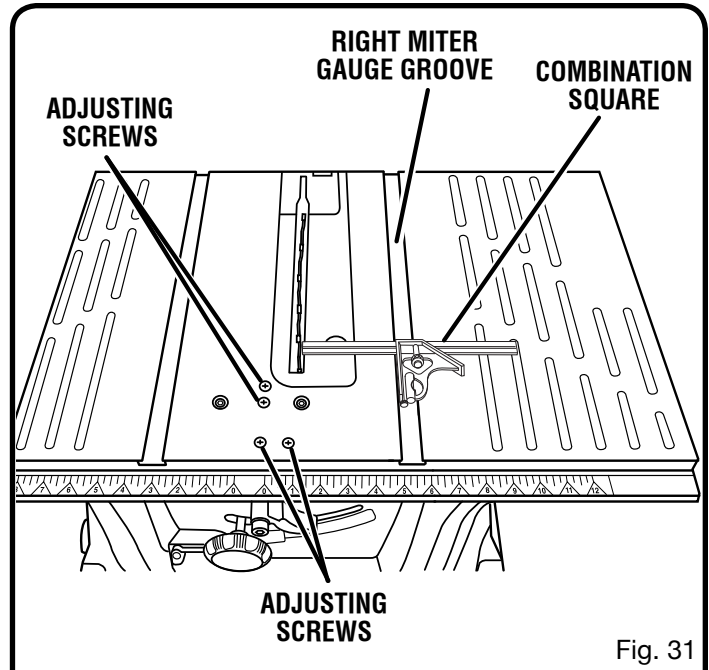

Fig. 31
See Figures 31 - 33.
- Mark beside one of the blade teeth at the front of the blade. Place a combination square even with the front of the saw table and the side of the saw blade as shown in figure 31.